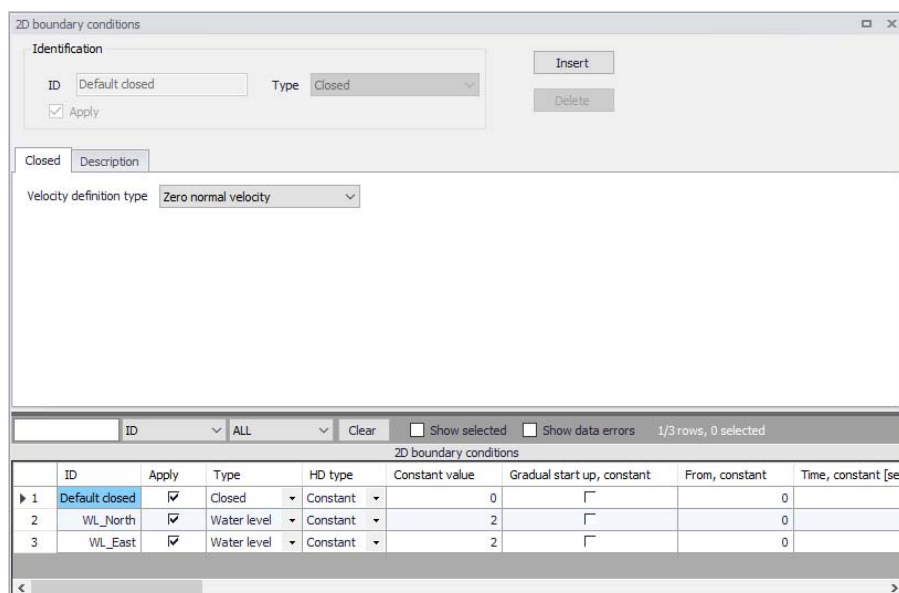

Figure 4.1 The 2D Boundary Conditions editor
If the 2D domain source is 'Domain file created from MIKE+ definition', the user must pre-define open 2D boundaries in the computation grid/mesh on the Map before configuring in the 2D Boundary Conditions editor (Figure 4.1). If the 2D domain source is 'Existing domain file', then the open 2D boundaries are identified from the selected flexible mesh file, and their locations cannot be modified in MIKE+.
3. Configure boundary conditions in the 2D Boundary Conditions Editor (Boundary Conditions|2D Boundary Conditions) (Figure 4.1). Details on the various configuration parameters for each type of boundary condition are described in succeeding sections.
3. Configure all the defined boundary conditions in the 2D Boundary Conditions Editor (Boundary Conditions|2D Boundary Conditions) (Figure 4.1). Details on the various configuration parameters for each type of boundary condition are described in succeeding sections.